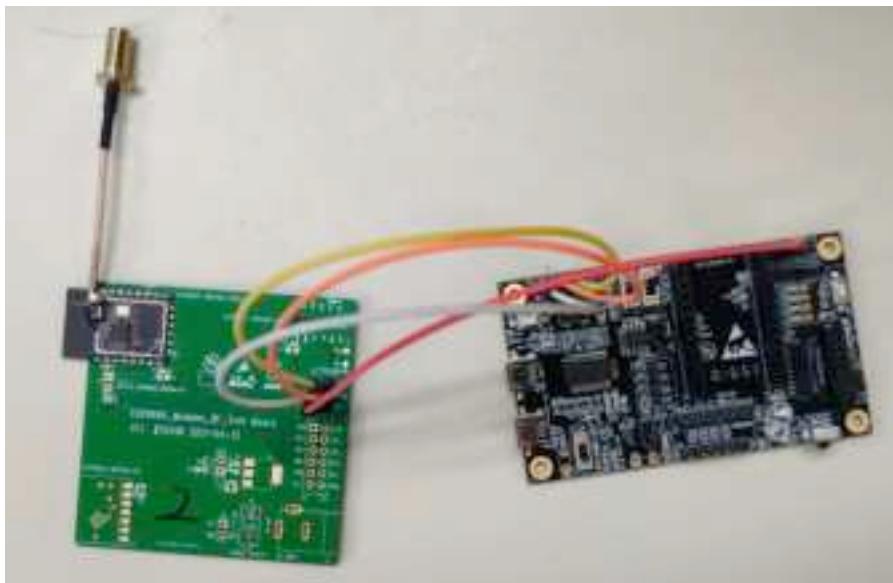

Figure 2: Hardware Connection
1. Solder the ESP8685-WROOM-04 module to the RF testing board as shown in Figure 2.